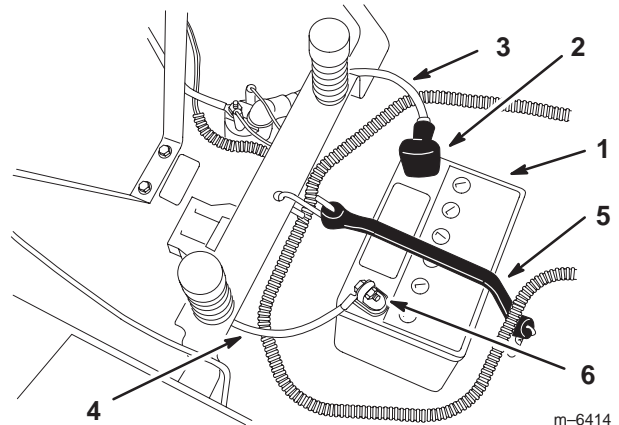

Figure 33
4. Disconnect the negative (black) ground cable from the battery post (Fig. 33).
5. Slide the rubber cover up the positive (red) cable. Disconnect the positive (red) cable from the battery post (Fig. 33).
6. Remove the battery hold-down (Fig. 33) and lift the battery from the battery tray.
1. Position the battery in the tray with the terminal posts away from the control panel (Fig. 33).
4. Secure the cables with 2 bolts (1/4 x 3/4 inch), washers (1/4 inch), and nuts (1/4 inch) (Fig. 33).
- Secure the battery with the hold-down (Fig. 33).